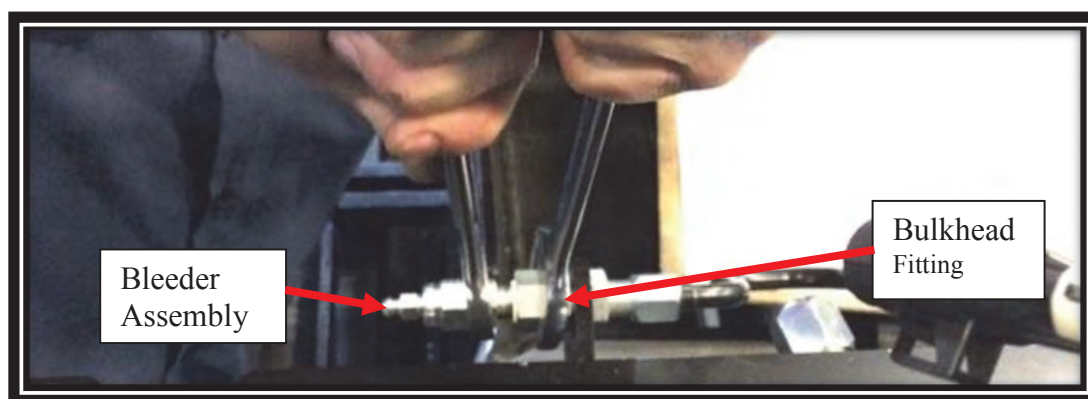

FIG. 2-2
2. Remove bleeder assembly from bulkhead fitting. Refer to FIG. 2-2.